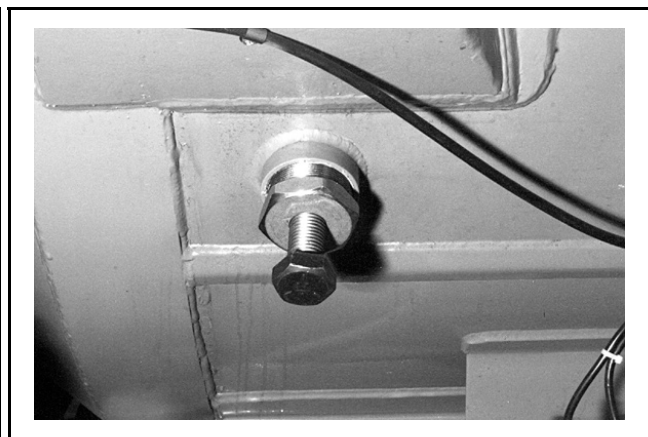

FIGURE 3 (MSSM0275AE)
2. Remove the short bolts that plug the cylinder support weldments and replace with the long bolts included in the kit (FIGURE 3). Tighten each bolt until it contacts the cylinder then tighten an additional quarter turn.